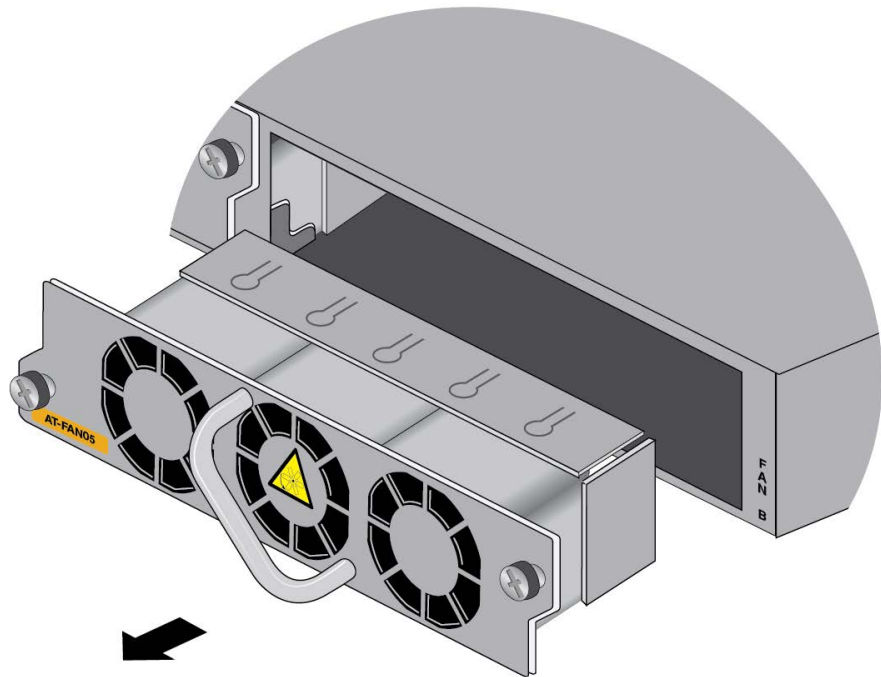

Figure 158. Sliding the Fan Module from the Switch
3. Slide the fan module out of the switch. Refer to Figure 158.